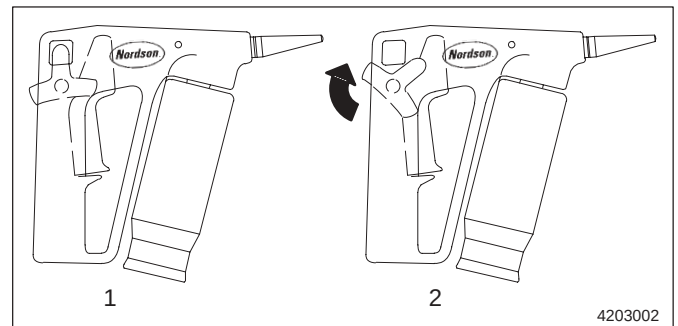

Figure 2 Lock Positions
3. Place the trigger lock in the unlocked position (see Figure 2).
1. Place the trigger lock in the locked position (see Figure 2).
7. Place the trigger lock in the locked position (see Figure 2).
5. Place the trigger lock in the locked position (see Figure 2).
4. Place the trigger lock in the locked position (see Figure 2).